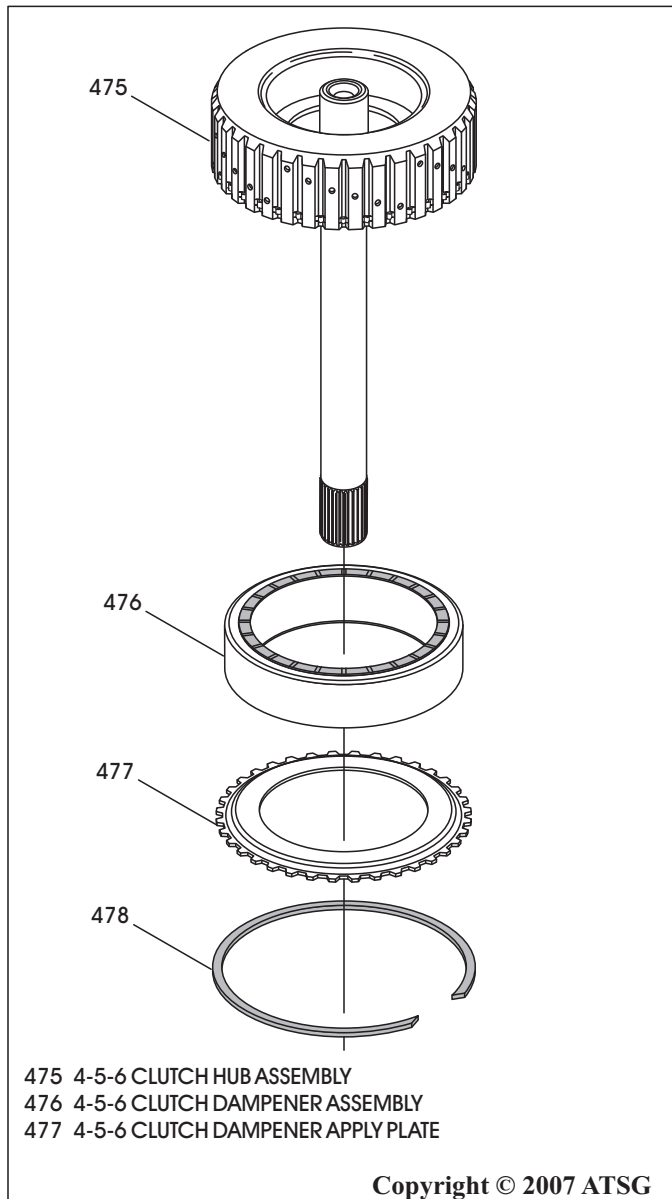

Figure 84
1. Disassemble the 4-5-6 clutch dampener using Figure 84 as a guide.